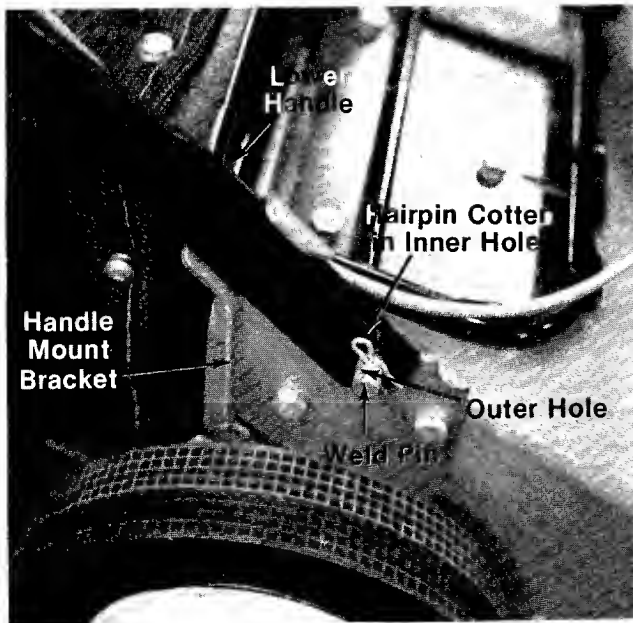

FIGURE 2.
3. Place lower handle in position over weld pins in handle mount brackets on deck. Secure by placing two hairpin cotters (F) in inner hole on weld pins. See figure 2.